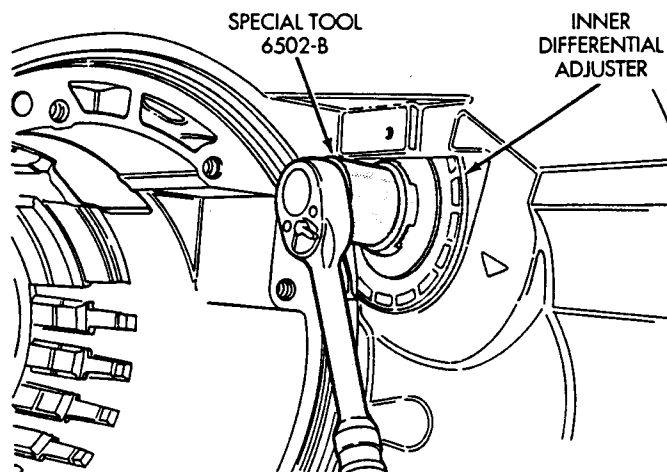

Fig. 16 Inner Adjuster Installation
(18) Lube adjuster threads and o-ring with gear oil before installing. Failure to lube threads will result in thread damage to the adjuster and transaxle case.
(19) Screw in the inner adjuster using special tool 6502B (Fig. 16). The inner adjuster should be screwed in until under-flush with inside of the case (viewed from differential side).